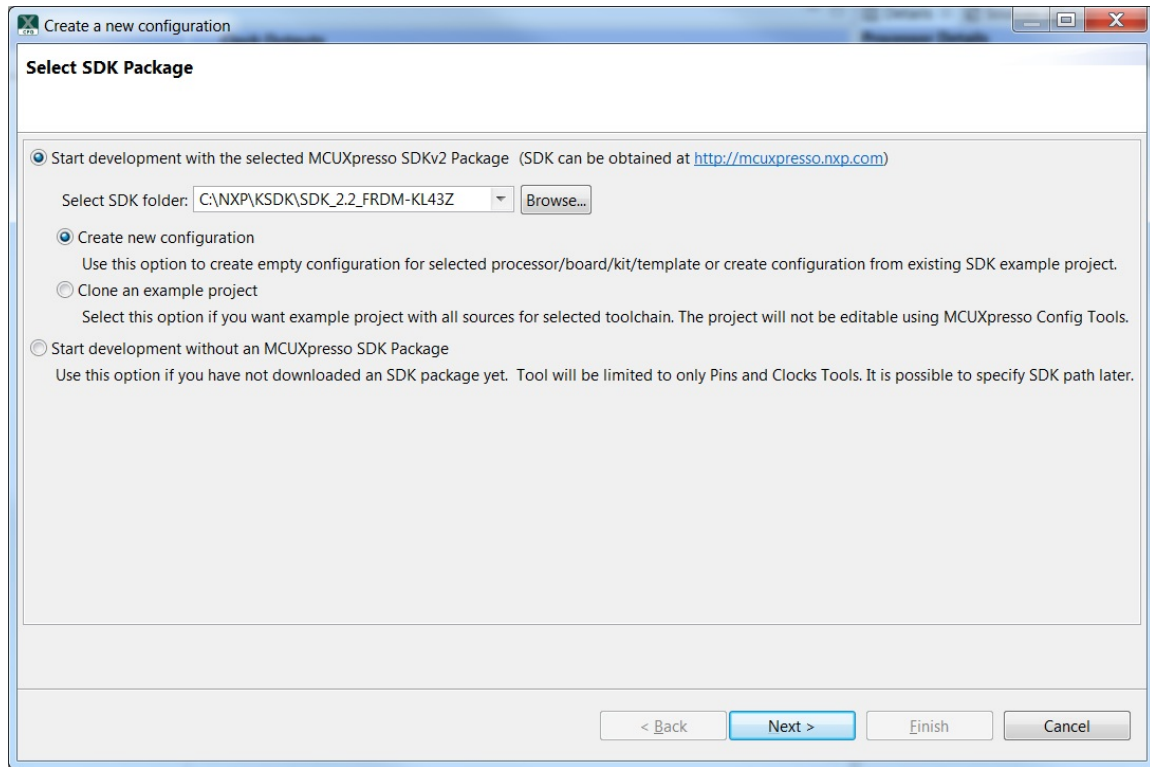

Figure 12. Selecting MCUXpresso SDK
- It is necessary to fix all the wrong parameters here. In this case, enable HIRC to get a 48 MHz clock. After this, the parameters display what is shown in Figure 12.